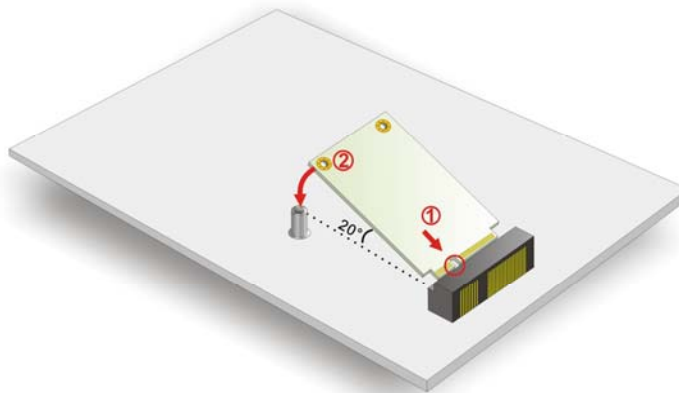

Figure 4-17: Insert the PCIe Mini Card into the Socket at an Angle
Step 3: **Insert into the socket at an angle.** Line up the notch on the card with the notch on the connector. Slide the PCIe Mini card into the socket at an angle of about 20° (Figure 4-17).